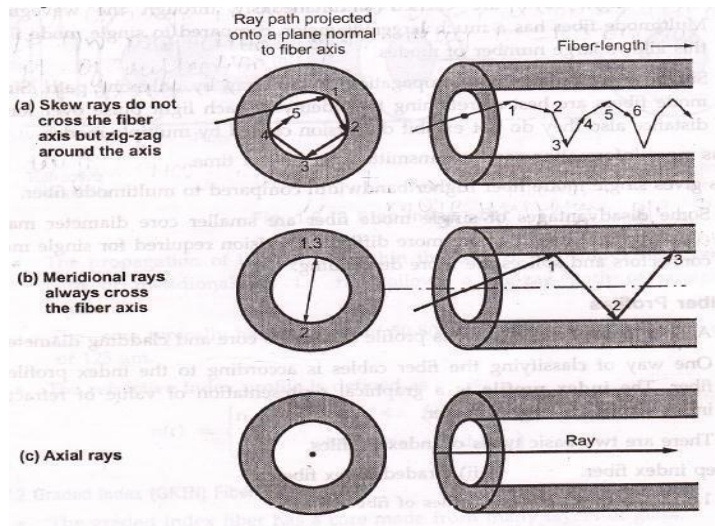

Fig:1.6.11 Different Ray Propagation
- **The skew rays** does not pass through the center, as show in Fig. 1.6.11 (a). The skew rays reflects off from the core cladding boundaries and again bounces around the outside of the core. It takes somewhat similar shape of spiral of helical path.
- The **meridional** ray enters the core and passes through its axis. When the core surface is parallel, it will always be reflected to pass through the center. The meridional ray is shown in fig. 1.6.11 (b).
- The **axial ray** travels along the axis of the fiber and stays at the axis all the time. It is shown in fig. 1.6.11 (c).